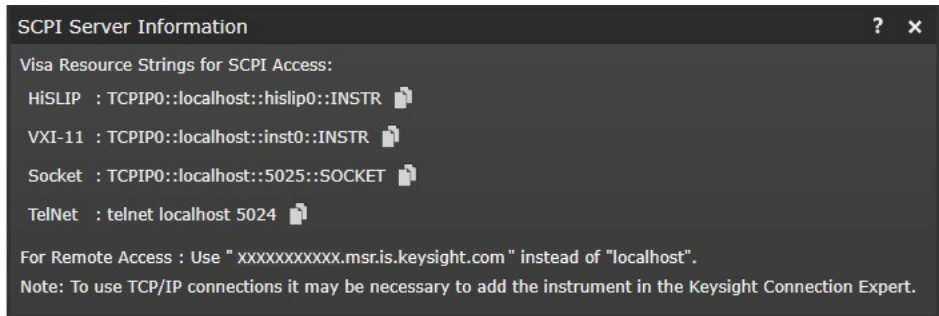

Figure 8 SCPI Server Information window on the M8070B Software
- In the **Enter/Select VISA address/alias (or SICL address)**: text field, you can either type or copy the VISA/SICL address directly from the Keysight M8070B Software and paste it here. To verify the correct VISA address to connect to M8070B, access the **SCPI Server Information** window (Figure 8) by clicking **Utilities > SCPI Server Information...** from the main menu of the Keysight M8070B software.